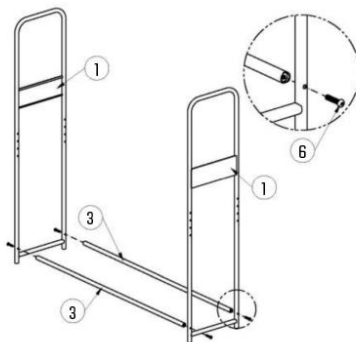

Figure 1
1. Use M10*40 round head hexagonal bolts (6) to connect the lower horizontal pipe (3) on both side frames (Figure 1).